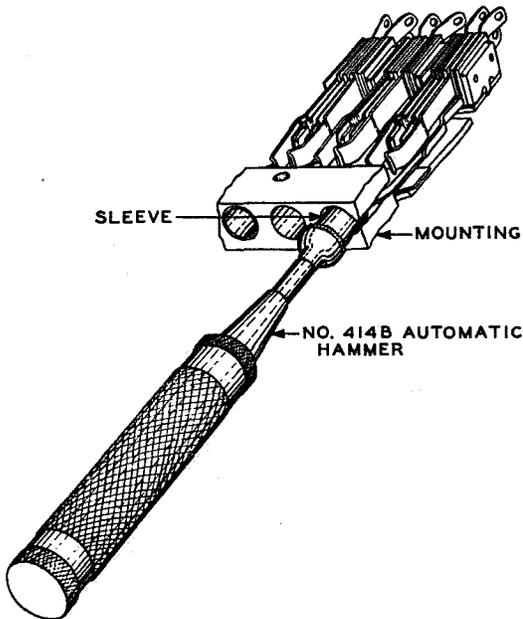

FIG. 8 - METHOD OF DRIVING SLEEVE INTO MOUNTING WITH NO. 414B AUTOMATIC HAMMER
3.16 Place the No. 414B automatic hammer in the sleeve and carefully guide the sleeve into the opening in the face of the mounting as shown in Fig. 8. Do not turn or twist the sleeve in doing this. Push on the hammer until the automatic release operates. Repeat this operation until the sleeve is flush with the face of the mounting.